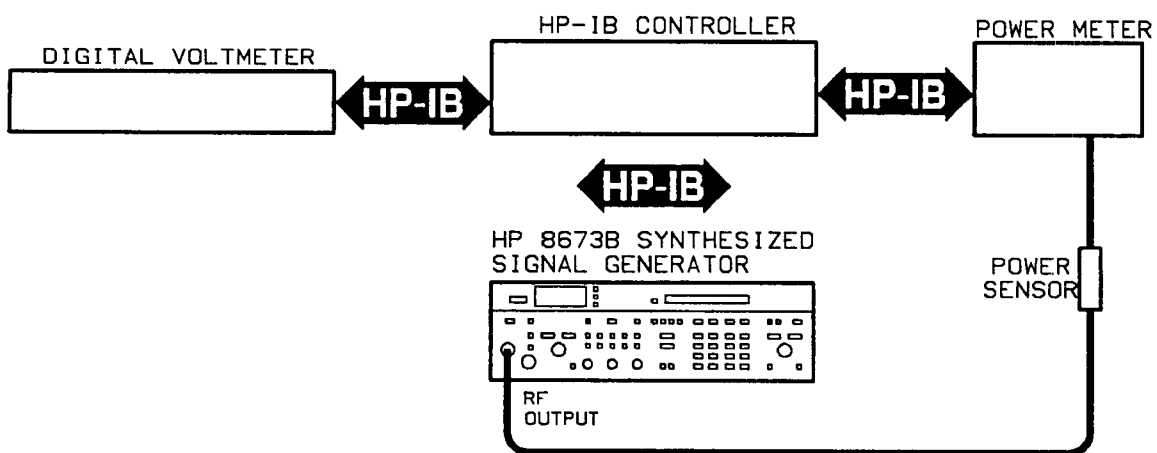

Figure 5-28. Flatness and ALC Adjustment Test Setup
3. Connect the equipment as shown in figure 5-28.